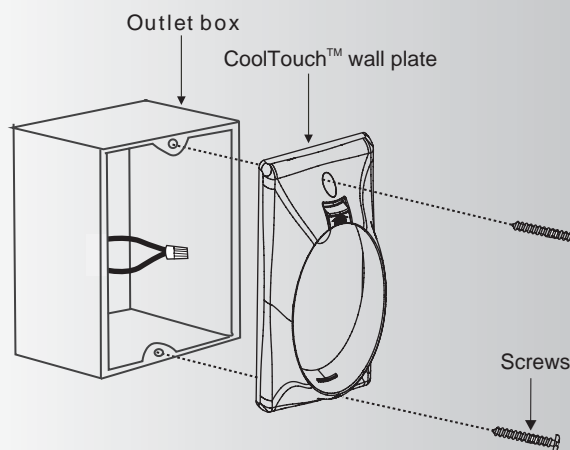

Fig. 26
Step 2. Install the CoolTouch™ wall plate to the existing wall outlet box with 2 screws provided. (Fig. 26)